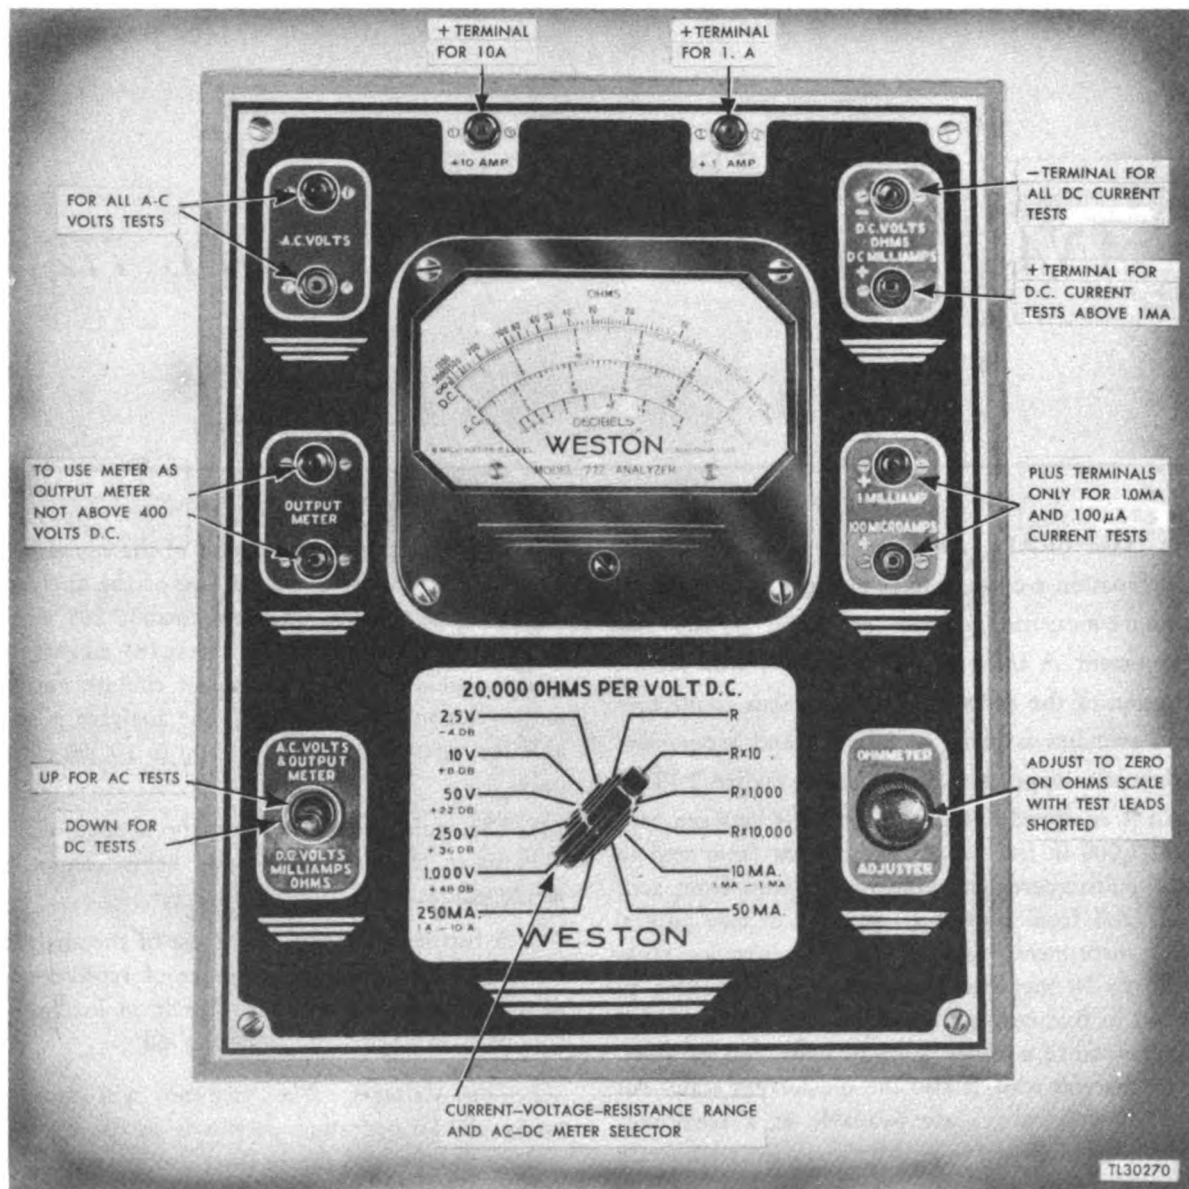
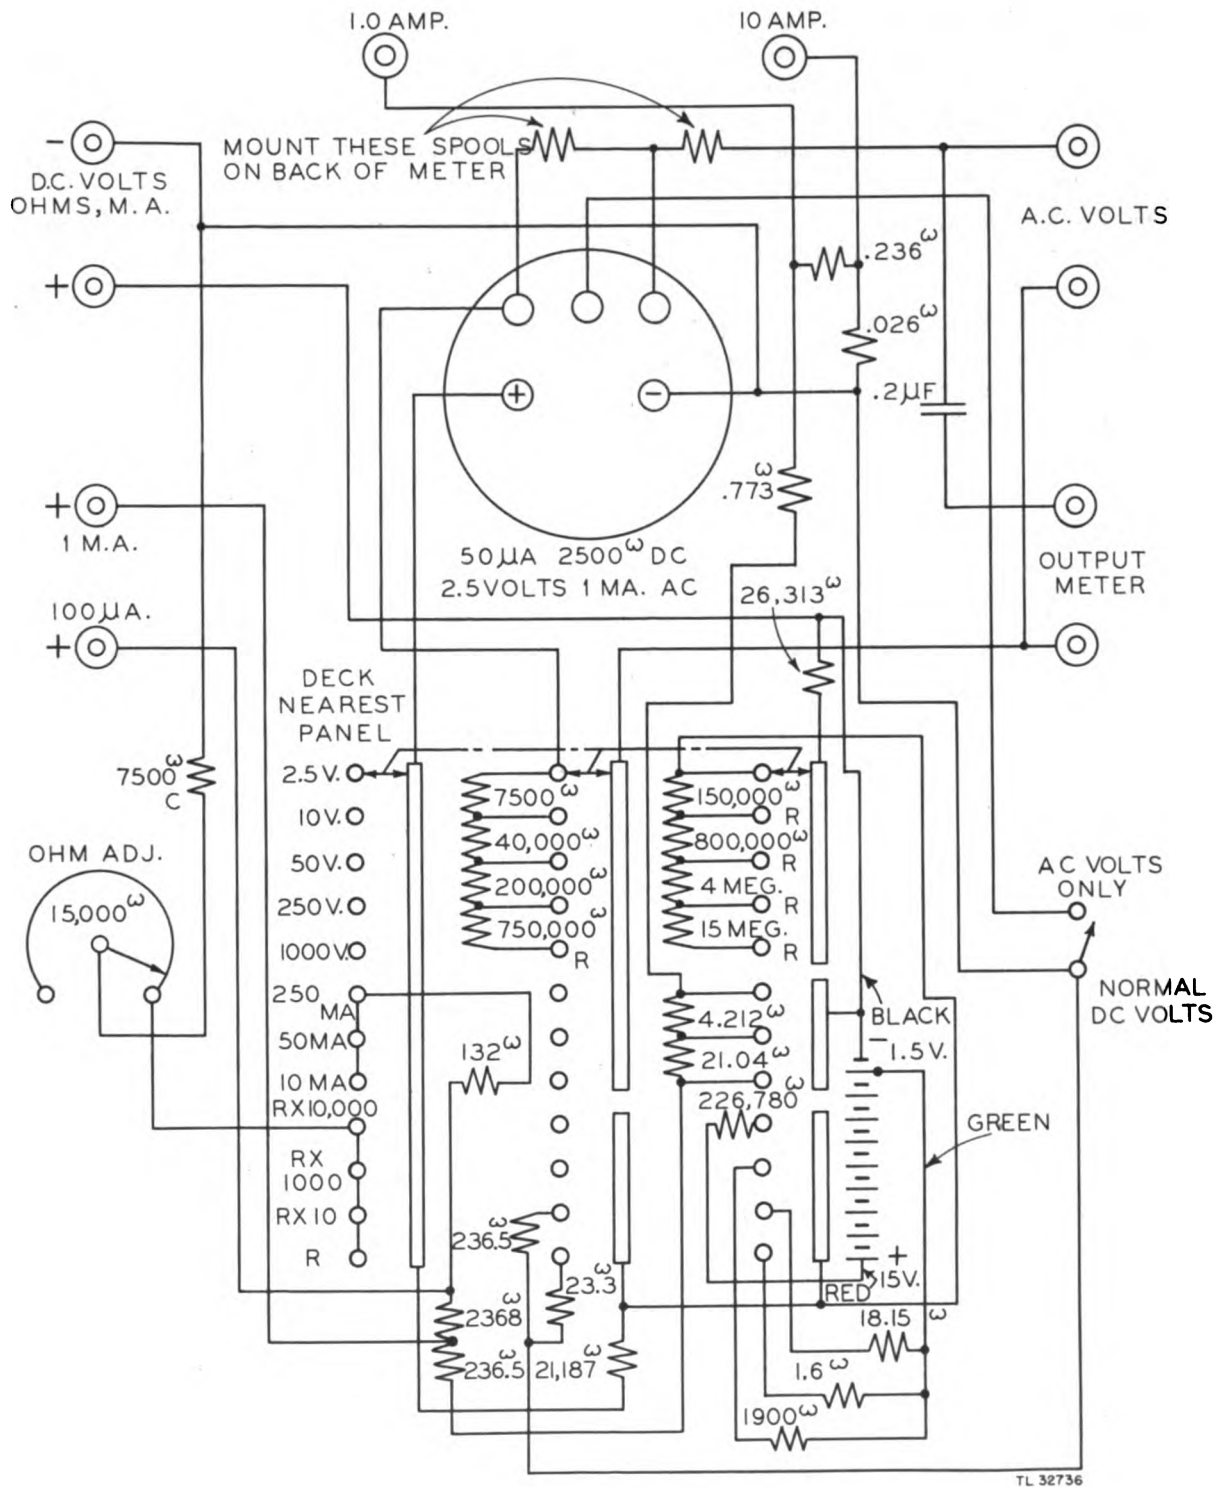

Figure 6. Analyzer I-167, Weston model 772, panel view.
Figure 7. Analyzer I-167, Weston model 772, schematic diagram.
10. **GENERAL.** Analyzer I-167 is one of the combination a-c d-c voltage-measuring and d-c resistance-measuring devices contained in the test equipment. A front view of the panel with identification of the functions of the various connectors and switches is given in figure 6 and a complete schematic diagram is presented in figure 7. This unit is equipped to measure d-c volts between zero and 1,000 in five ranges, d-c current from zero to 250 milliamperes in three ranges, and from zero to 1 and from zero to 10 amperes in two ranges. The instrument will measure d-c resistance from zero to 30 megohms and a-c volts from zero to 1,000 in five ranges. Individual scales are provided for resistance measurement, d-c volts, and a-c volts. The d-c-volt scale is also the d-c-current scale. All the d-c-volt ranges are available at a sensitivity of 20,000 ohms per volt. All the a-c ranges operate at 1,000 ohms per volt.
a. Limitations. (1) Operating voltages in Radio Set SCR-268-(*) cover a range from a fraction of a volt to about 11,000 volts. Voltages in parts of certain components cannot be measured by the analyzer because they exceed the voltage ranges of the analyzer. Such voltages appear in the transmitter, the rectifier, the modulator, the high-voltage power supply (to the cathode-ray tube) in the oscilloscope, and the final amplifier and high-voltage power supply circuits of the keyer.
a. *General.* An output meter is a device used for measuring the output power of amplifiers, radio receivers, etc. The method of measurement is to feed the output of the set to a load resistance in the meter and measure the voltage drop produced across this resistor. The scale is calibrated in volts. For the purpose of measuring the signal voltage in a circuit that also contains d-c, a capacitor has been incorporated in the analyzer circuit used to measure a-c (fig. 7).
b. *Operation.* (1) Plug the test leads into the OUTPUT METER jacks.
(2) Set the toggle switch to the A.C. VOLTS & OUTPUT METER position.
(3) Rotate the range switch to any one of the five voltage ranges desired.
(4) Apply the free ends of the test leads to the circuit being measured.
(5) The readings will be relative as the 0.2-mfd capacitor in the circuit will cause an error on low ranges. This capacitor (which is built into the analyzer to protect the instrument against direct current) is limited to 400 volts direct current and must not be used in circuits which exceed this d-c voltage.
a. *General.* (1) Analyzer I-167 is a precision instrument and no maintenance will be attempted by inexperienced personnel. Analyzers contain many parts which are more delicate than parts of a fine watch. Mechanical shocks or electrical overloads will damage the meter or affect its accuracy. Maintenance of this analyzer will consist chiefly of battery replacement and, to a limited extent, replacing of component parts. Locate faults by continuity tests, by resistance measurements, and by visual inspection.
(2) The schematic diagram (fig. 7) shows the values of component parts.
(3) Replace batteries which are part of the meter when necessary. Need for replacement may be indicated by faulty meter operation or by periodic checks. When opening test equipment for inspection of batteries, visually inspect the wiring and component parts for loose connections, obviously overloaded components, dirty switch contacts, or other likely sources of trouble.
(4) In testing meter circuits with an ohmmeter, the sensitive indicating-meter movement of a piece of test apparatus should be disconnected first from the circuit.
b. *Battery Testing and Replacement.* (1) The Weston model 772 analyzer utilizes two Burgess No. 5540 batteries of 7.5 volts each, connected in series with a tap-off of 1.5 volts for the three lowest ranges (R, Rx10, Rx1,000). These batteries are located in the bottom of the case and held in place by clamps. The batteries may be reached for replacement or test by removing the four corner screws on the panel and lifting the complete analyzer from its case.